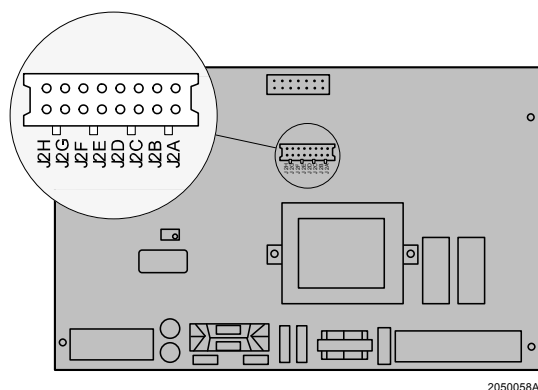

Fig. 5:8 The location of the pins on the Control Unit PCB
- Put the jumper over the two pins **J2D** if you want to change to **AUTO** and **J2B** if you want to change to **MANUAL**, see Fig. 5:8.